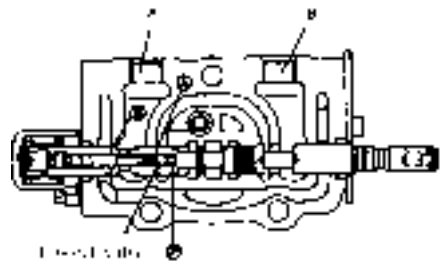

Fig.7-9
The following is the situation as pushing in the valve core. (Fig.7-9)
- (b) Remove bolts ⑪, pump cover ⑤, pump body ① (Fig.7-9).
- (c) Remove lining plate ⑥, driving gear ② and driven gear ③.
- (d) Remove seal ring ⑦ and ring ⑧ from the front and rear covers.